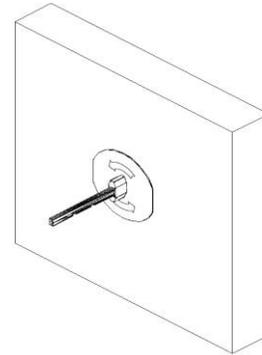

Figure 1
The System CIP comprises of connectors and pre-cut, rigid insulation with pre-installed twist-lock retainers. Each connector comprises a fiber-composite connector with a polymer wing that controls the position of the connector within the twist-lock retainer and provides leverage during connector installation (*Fig. 1*). When installed in the twist-lock retainers, the connectors position the insulation in the form during concrete placement.
- a. With the connector oriented as shown in (*Fig. 1*), insert the connector in the rectangular hole in the twist-lock assembly.